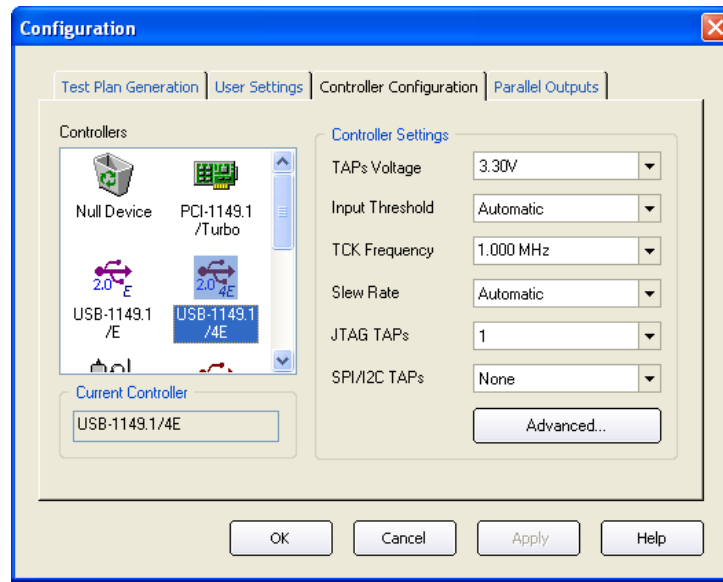

Figure 4-2. PXIE-1149.1/4E Setup Screen
6. Once ScanExpress Runner finds the PXIE-1149.1/4E controller, it displays a screen similar to Figure 4-2.